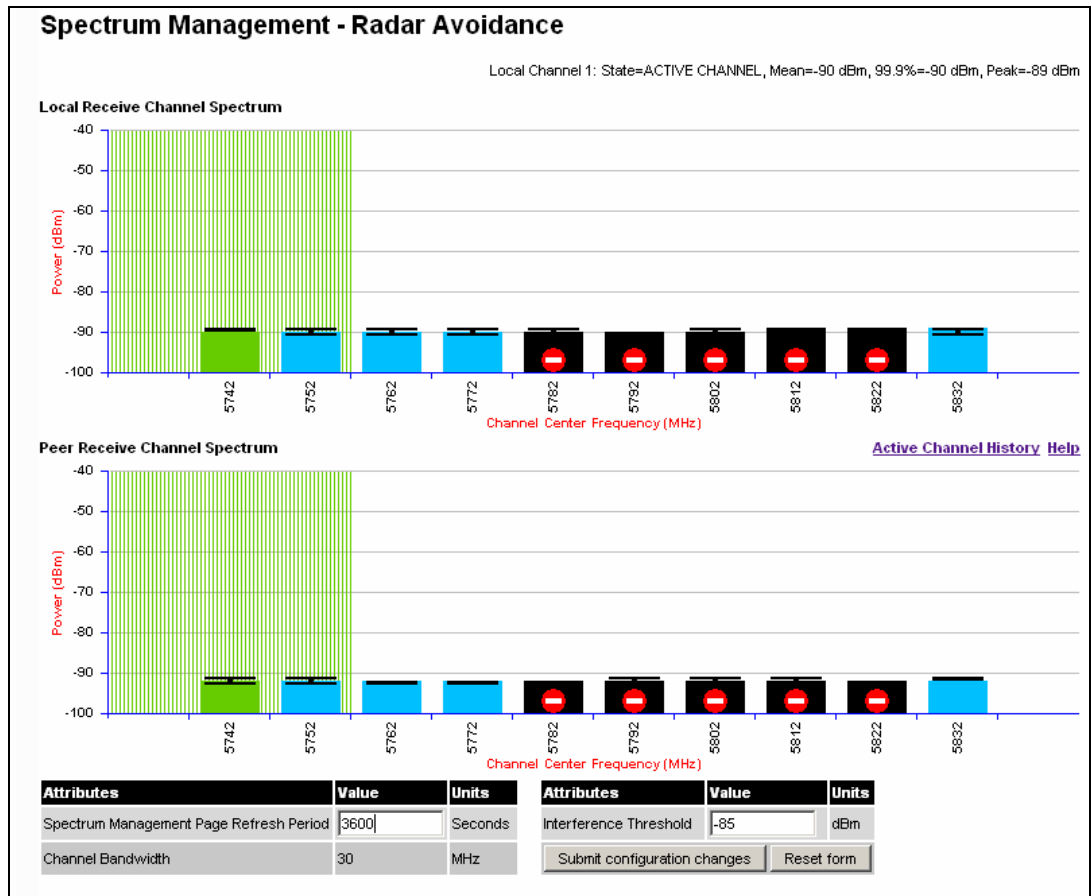
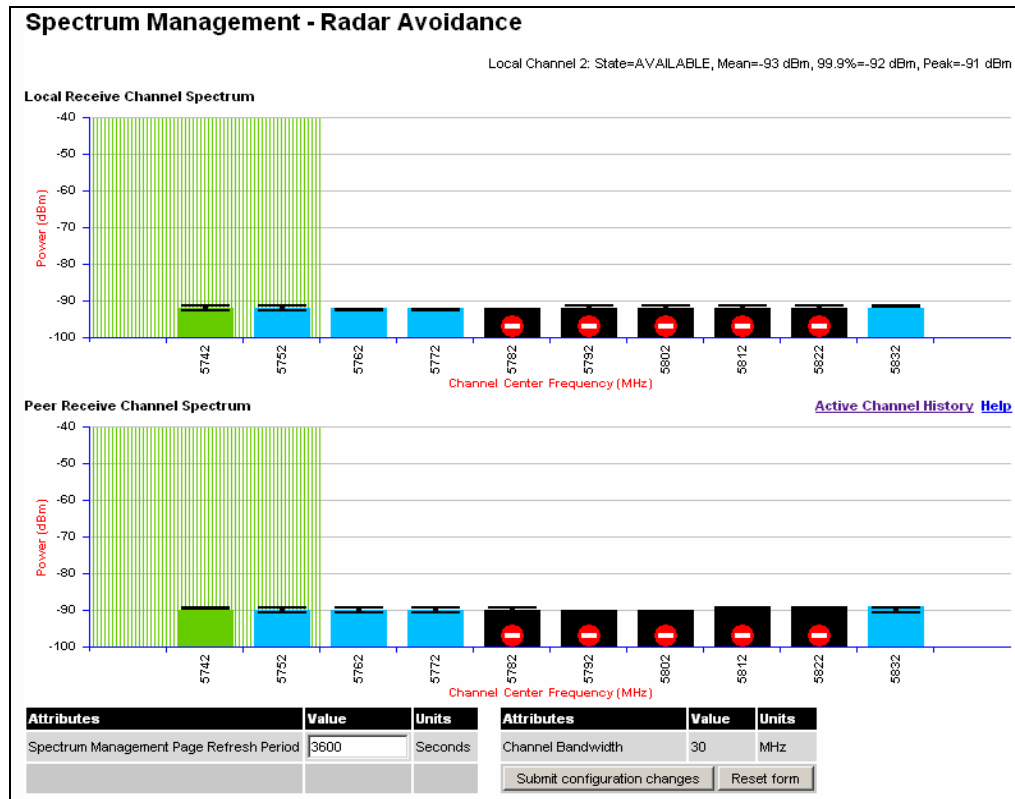

Figure 82 - Spectrum Management Master Screen With Operational Restrictions
Figure 83 - Spectrum Management Slave Screen With Operational Restrictions
- The words “Radar Avoidance” are appended to the “Spectrum Management” title at the top of the screen. See Figure 82 and Figure 83.
- The only controls available to the master are the Interference Threshold attribute. This has no effect on the operation of the wireless link and will only affect the generation of the channel spectrum graphics. See Figure 82.
- All channels marked with a 'no entry' symbol with their associated statistics colored black are the prohibited channels. See Figure 82 and Figure 83. These channels are never used to host the wireless link, but CAC measurements are still taken so that adjacent channel biases can be calculated correctly and so the user can see if other equipment is in use.